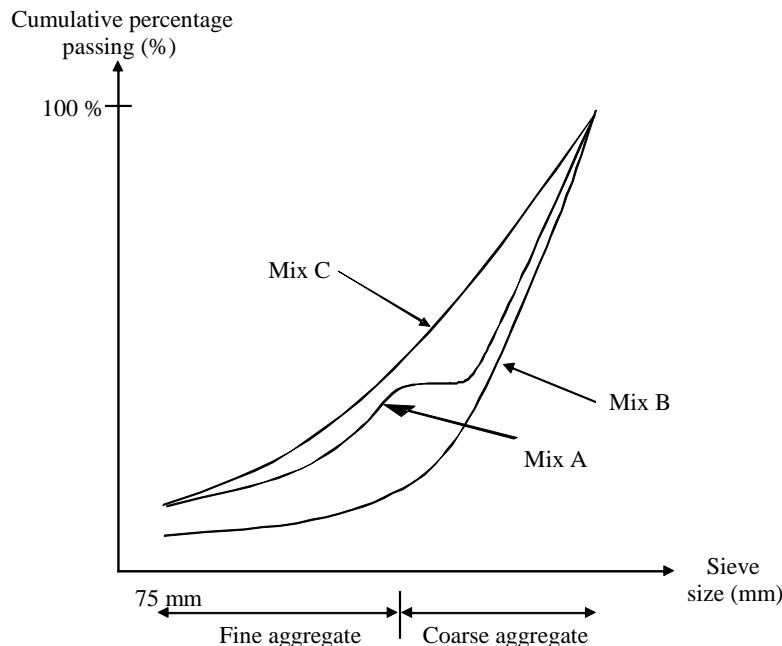

Figure 3
4. (a) (i) The aggregate gradations for three asphalt mixes are shown in **Figure 3**. From the figure, name the corresponding asphalt mix type and state your reasons.